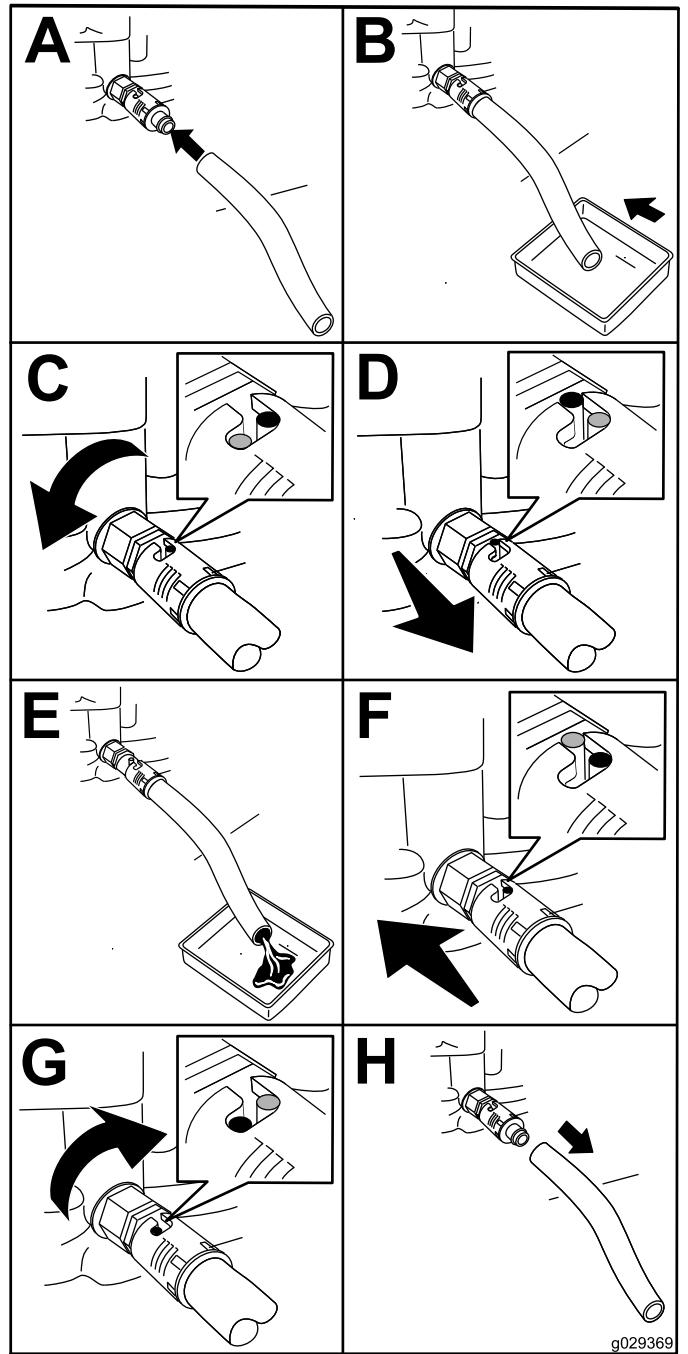

Figure 30
1. Install the drain hose onto the drain valve (Figure 30).
2. Place the other end of the hose (Figure 30) into a drain pan with a 1 L (1 US qt).
3. Turn the oil drain valve 1/4 turn counterclockwise and allow the engine oil to drain completely (Figure 30).
4. Turn the oil drain valve 1/4 turn clockwise to close the valve (Figure 30).
5. Remove the drain hose (Figure 30) and wipe any spilled oil.